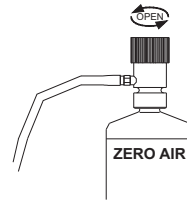

Figure 7
7. Open gas regulator fully by turning the knob at least two (2) turns counter-clockwise (Figure 7).